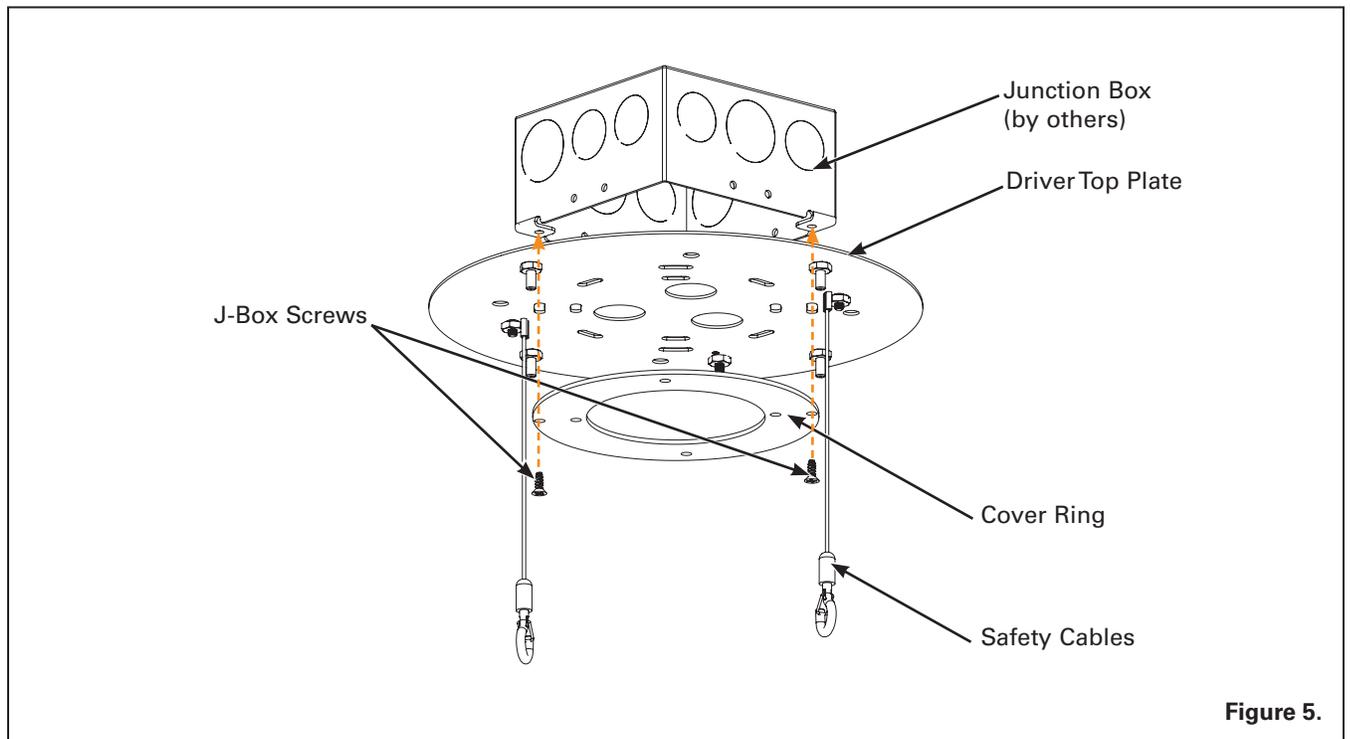

Figure 5.
Step 3. Using the J-Box screws, align the Cover Ring to inside of the DriverTop Cover. Screw the cover ring and the driver top plates to the J-Box. The Cover Ring must be used to reinforce the center of the Top Plate. Figure 5